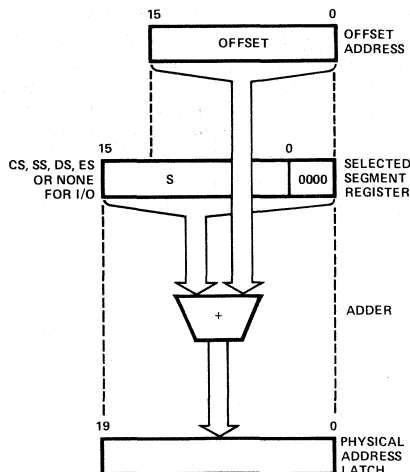

Figure 2-10. Address Generation with Segment Registers
Bytes or words within a segment are addressed using 16-bit offset addresses, or effective addresses (EA), within the 64k byte segment. A 20-bit physical address is constructed by adding the 16-bit offset address to the 16-bit segment address with four low-order zero bits appended. That is, they are left-shifted four places. This is illustrated in Figure 2-10.